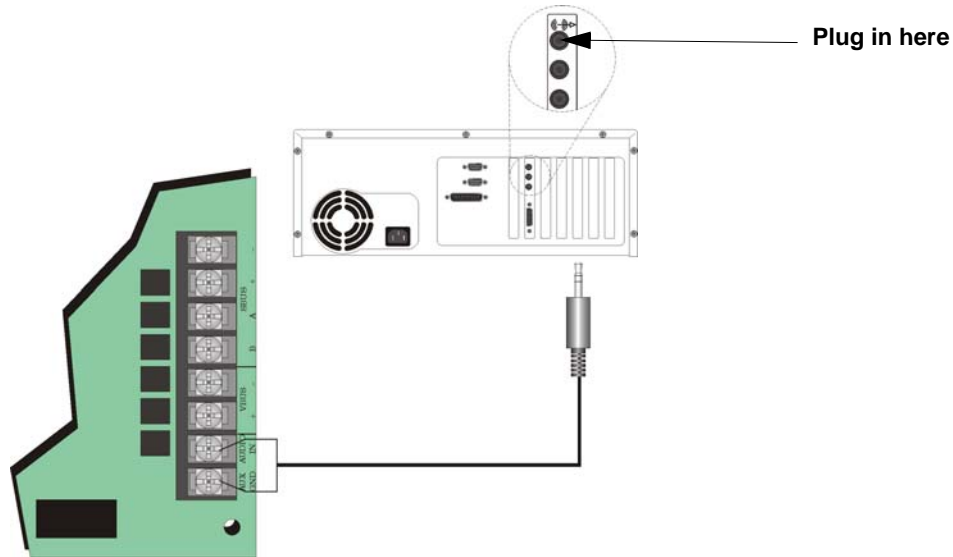

Figure 4-3 Aux Audio Connection for Recording
1. Wire a speaker cable with 1/8" mini plug (Radio Shack Cat. No. 42-2454) to Aux Audio GND and IN terminals. Refer to Figure 4-3.
2. Plug the mini plug into the Line Out/Headphone jack on a PC or Laptop. See Figure 4-3.